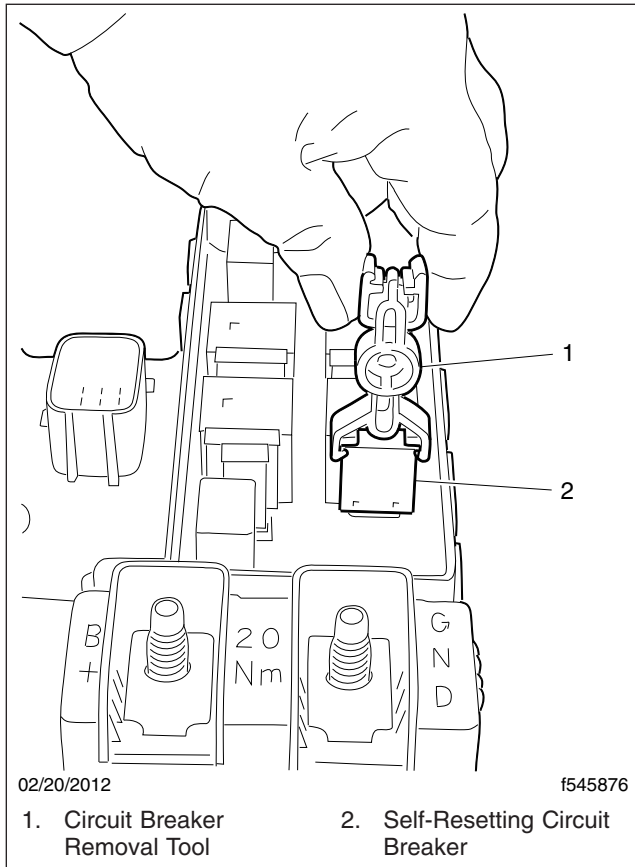

Fig. 3.5, Self-Resetting Circuit Breaker Removal
- Use a circuit breaker removal tool to remove a self-resetting circuit breaker. See Fig. 3.5. Use of any other tool, including pliers, may damage the circuit breaker.